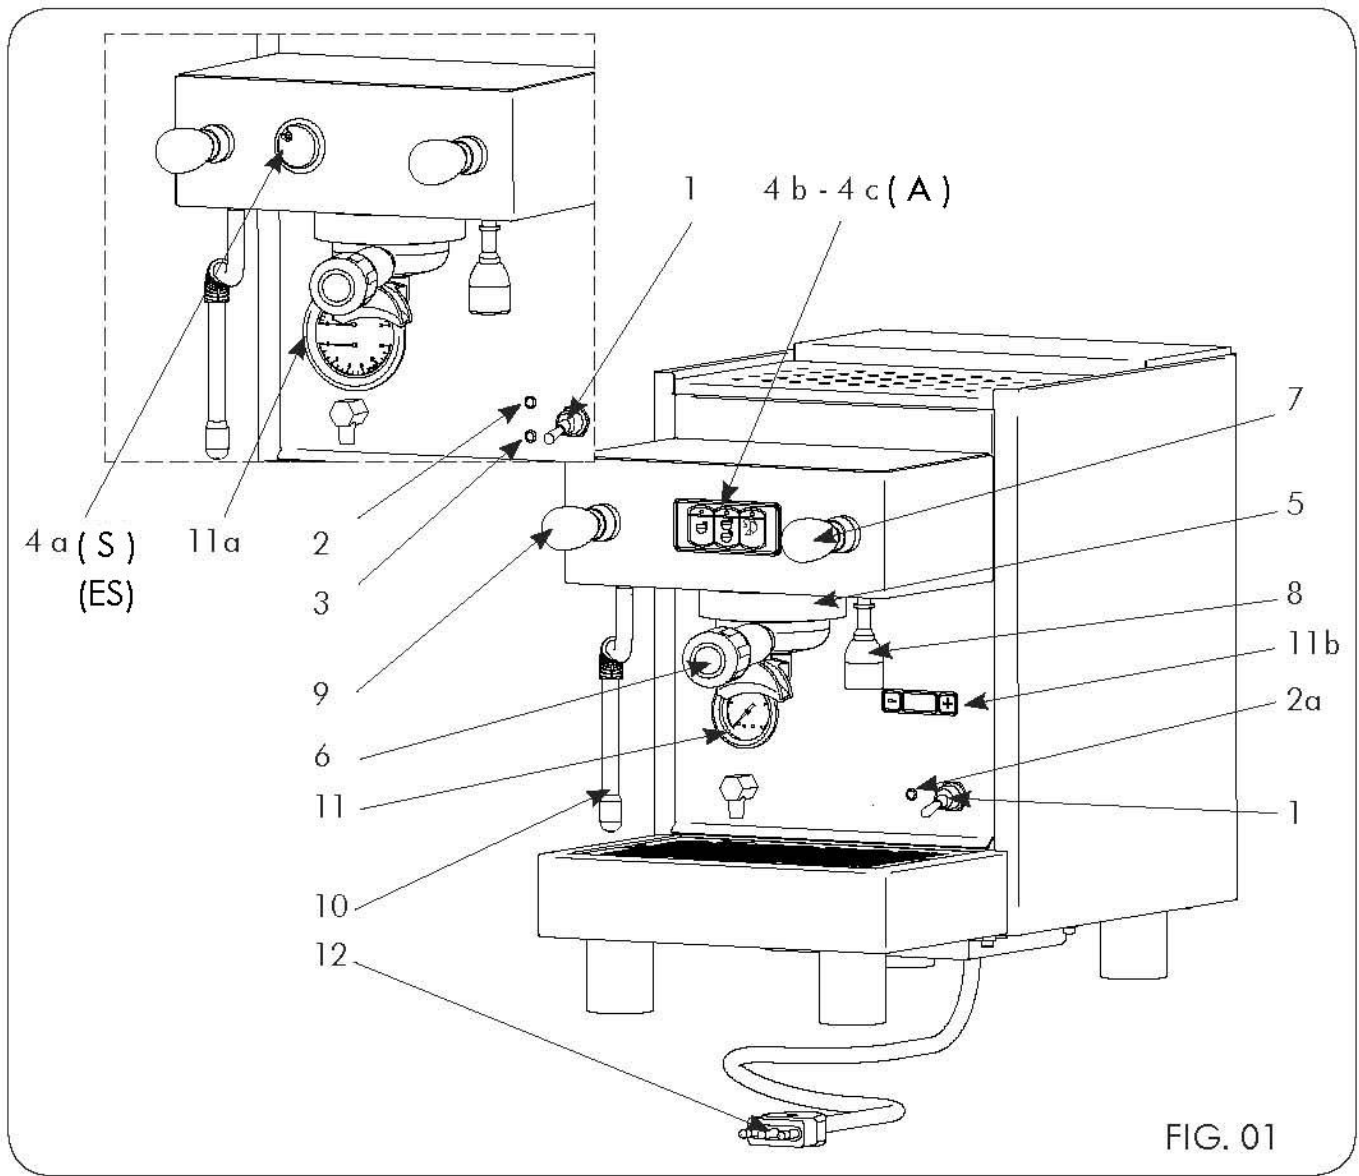

FIG. 01
3.2 Description of controls (Fig. 01 - Fig. 10)